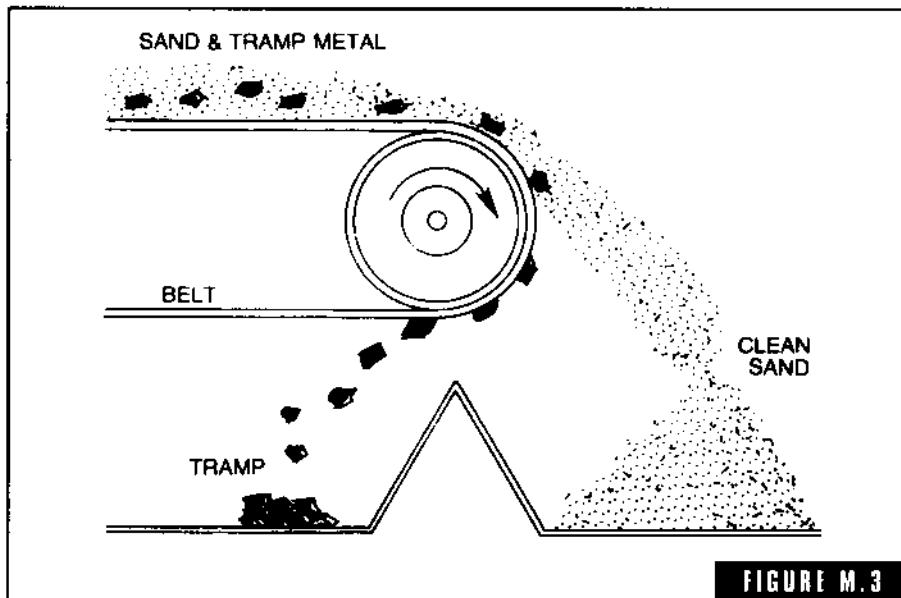

FIGURE M.3
**magnetic pulley** A pulley used on a sand conveyor belt in ferrous foundries to remove tramp metal such as lost gates and shot metal from the sand (Fig. M-3). Because it is a permanent magnet,